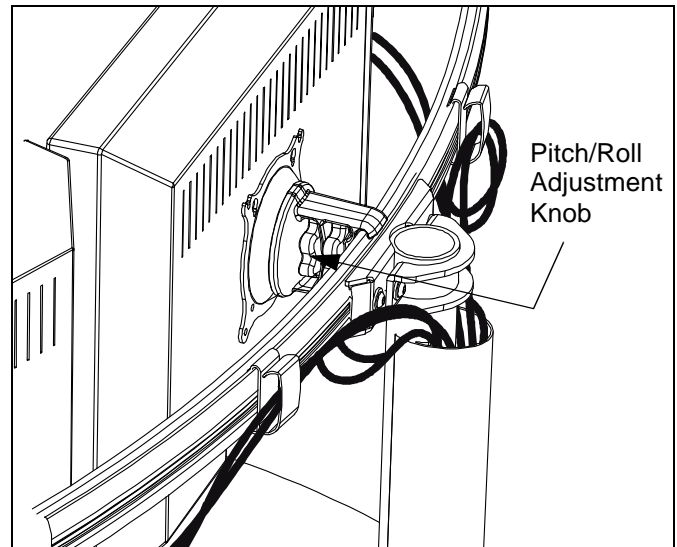

**Figure 14: Display Horizontal Adjustment**
1. Loosen Centris bracket rear adjustment knob (see Figure 14).